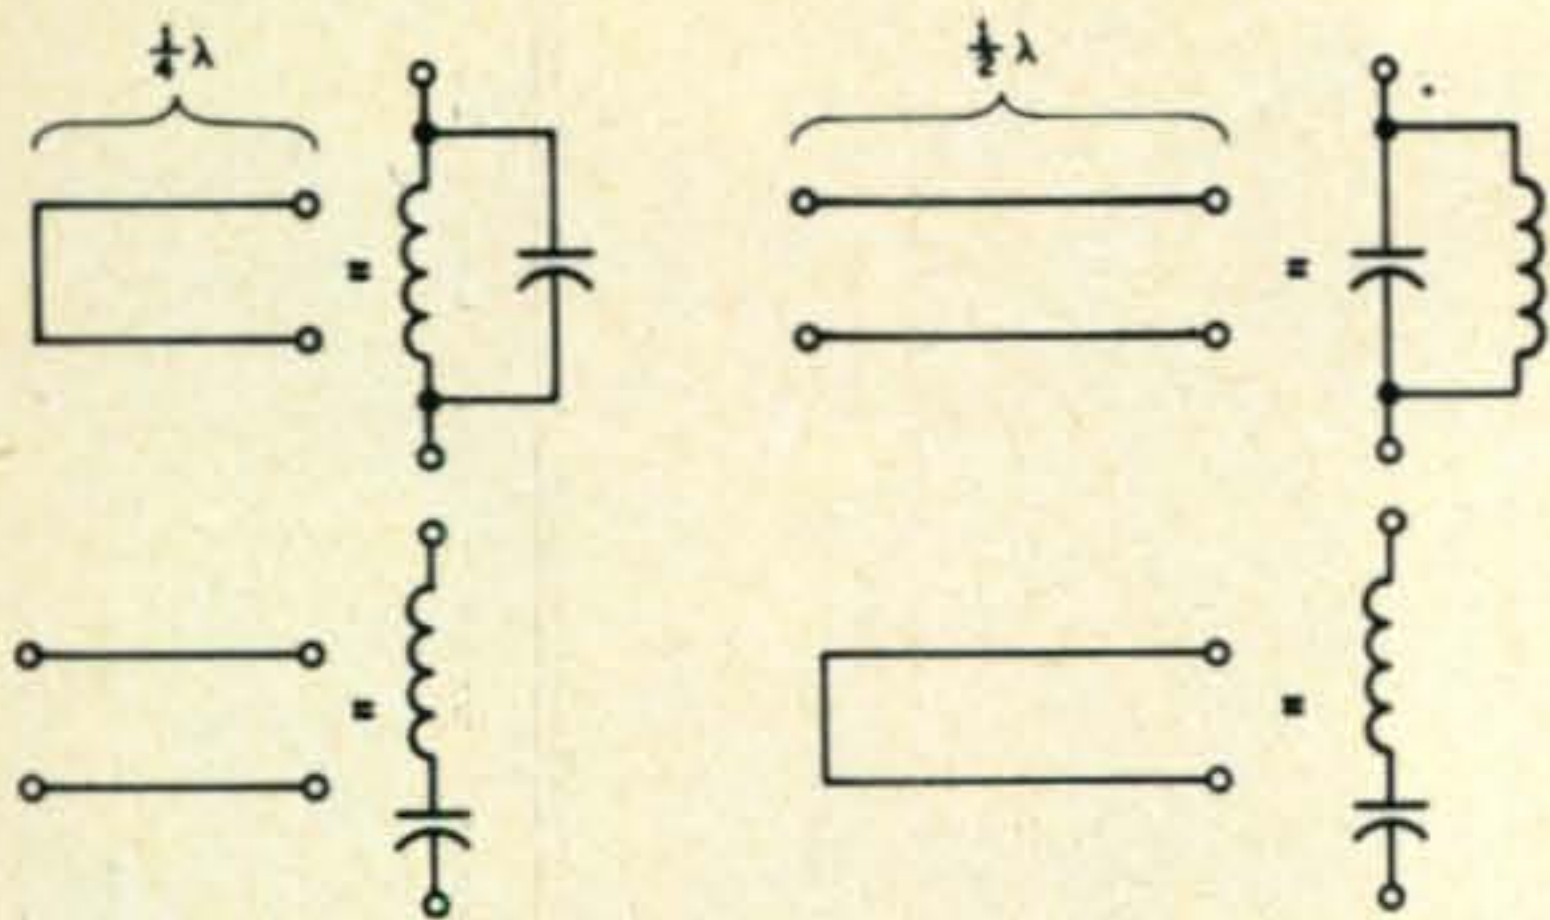

Fig. 2—Equivalents of closed and open circuited $\frac{1}{4}$ and $\frac{1}{2}\lambda$ lines.
The "trapless" type of multiband antenna depends for its operation on a somewhat similar but more simple type of resonant circuit action, as illustrated in fig. 2. Transmission lines themselves, of any impedance or type, can act as resonant circuits composed of equal inductive and capacitive reactive elements when their length is either $\frac{1}{4}\lambda$ or some multiple thereof. Figure 2(A) shows both a closed and an open ended section of a $\frac{1}{4}\lambda$ (or odd multiple thereof) transmission line. The closed or shorted section at its terminal acts as a parallel resonant or high impedance circuit, in effect an open
circuit. The open ended section reflects at its terminals the opposite effect of its termination—a series resonant low impedance or short circuit. Figure 2(B) demonstrates the terminal conditions presented by an opened ended and closed ended $\frac{1}{2}\lambda$ (or even multiple thereof) transmission line. The terminal conditions are an exact reflection of the termination of the transmission line section. That is, an opened ended termination will reflect the equivalent of a parallel resonant or high impedance circuit. A closed or shorted termination will reflect the equivalent of a series resonant or low impedance circuit.